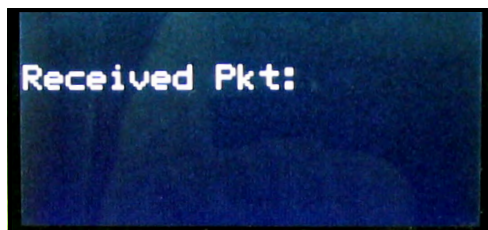

Figure 223: Sentinel LCT Screen
3. From the **Sentinel LCT** FACTORY menu, scroll to the Upgrade option and press [ENT] twice. The **Sentinel LCT** screen should appear as in Figure 223 after approximately one minute, or
Power on the **Sentinel LCT**, and enter ESC-R from the PC keyboard. The **Sentinel LCT** screen should appear as in Figure 223.